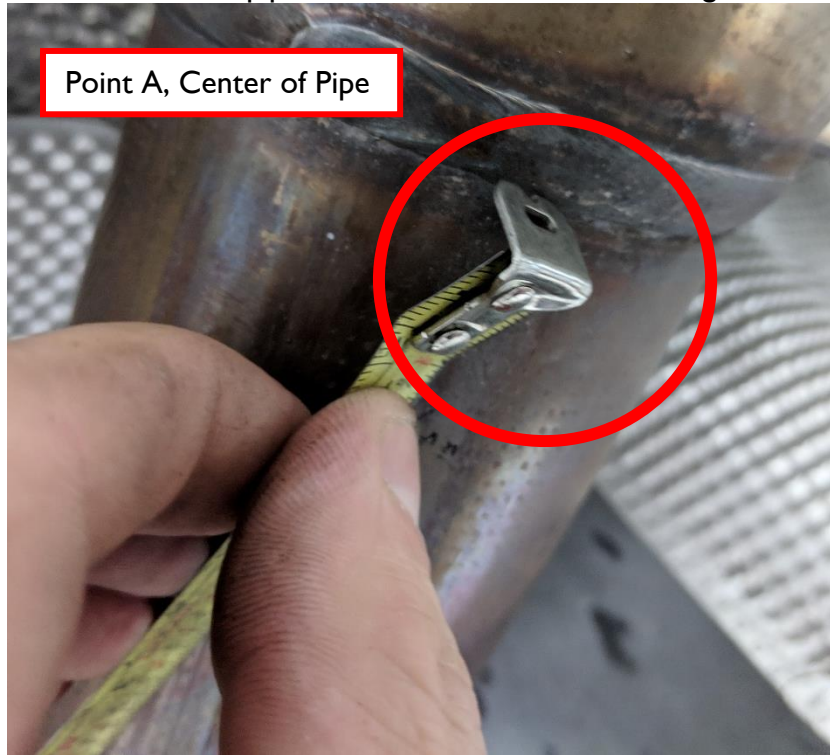

Figure 3
2.1 The center of the pipe on Point A should resemble Figure 3 below.